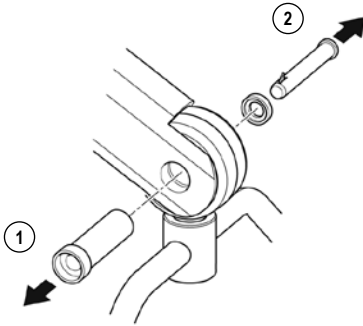
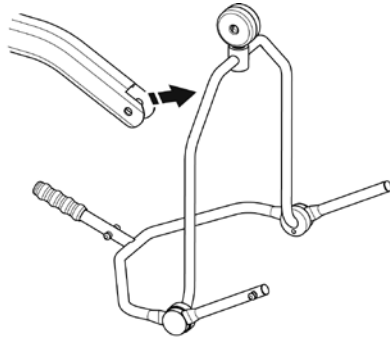

Fig. 3
Fig. 4
2. Pull the pin out (Fig. 3, item 1).
3. Support the spreader bar, and then pull the pin sleeve (Fig. 3, item 2) in the opposite direction, removing it from the boom. This will release the spreader bar completely (Fig 4).